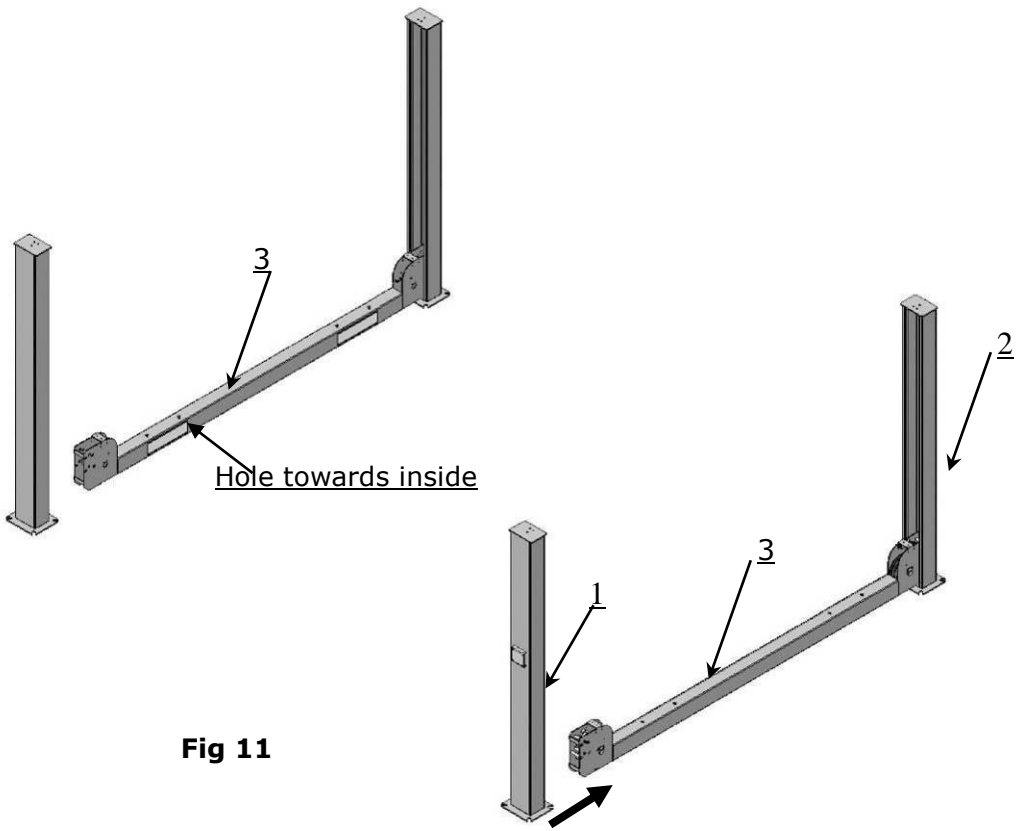

Fig 11
D. Install cross beams (See Fig. 11, Fig. 12).